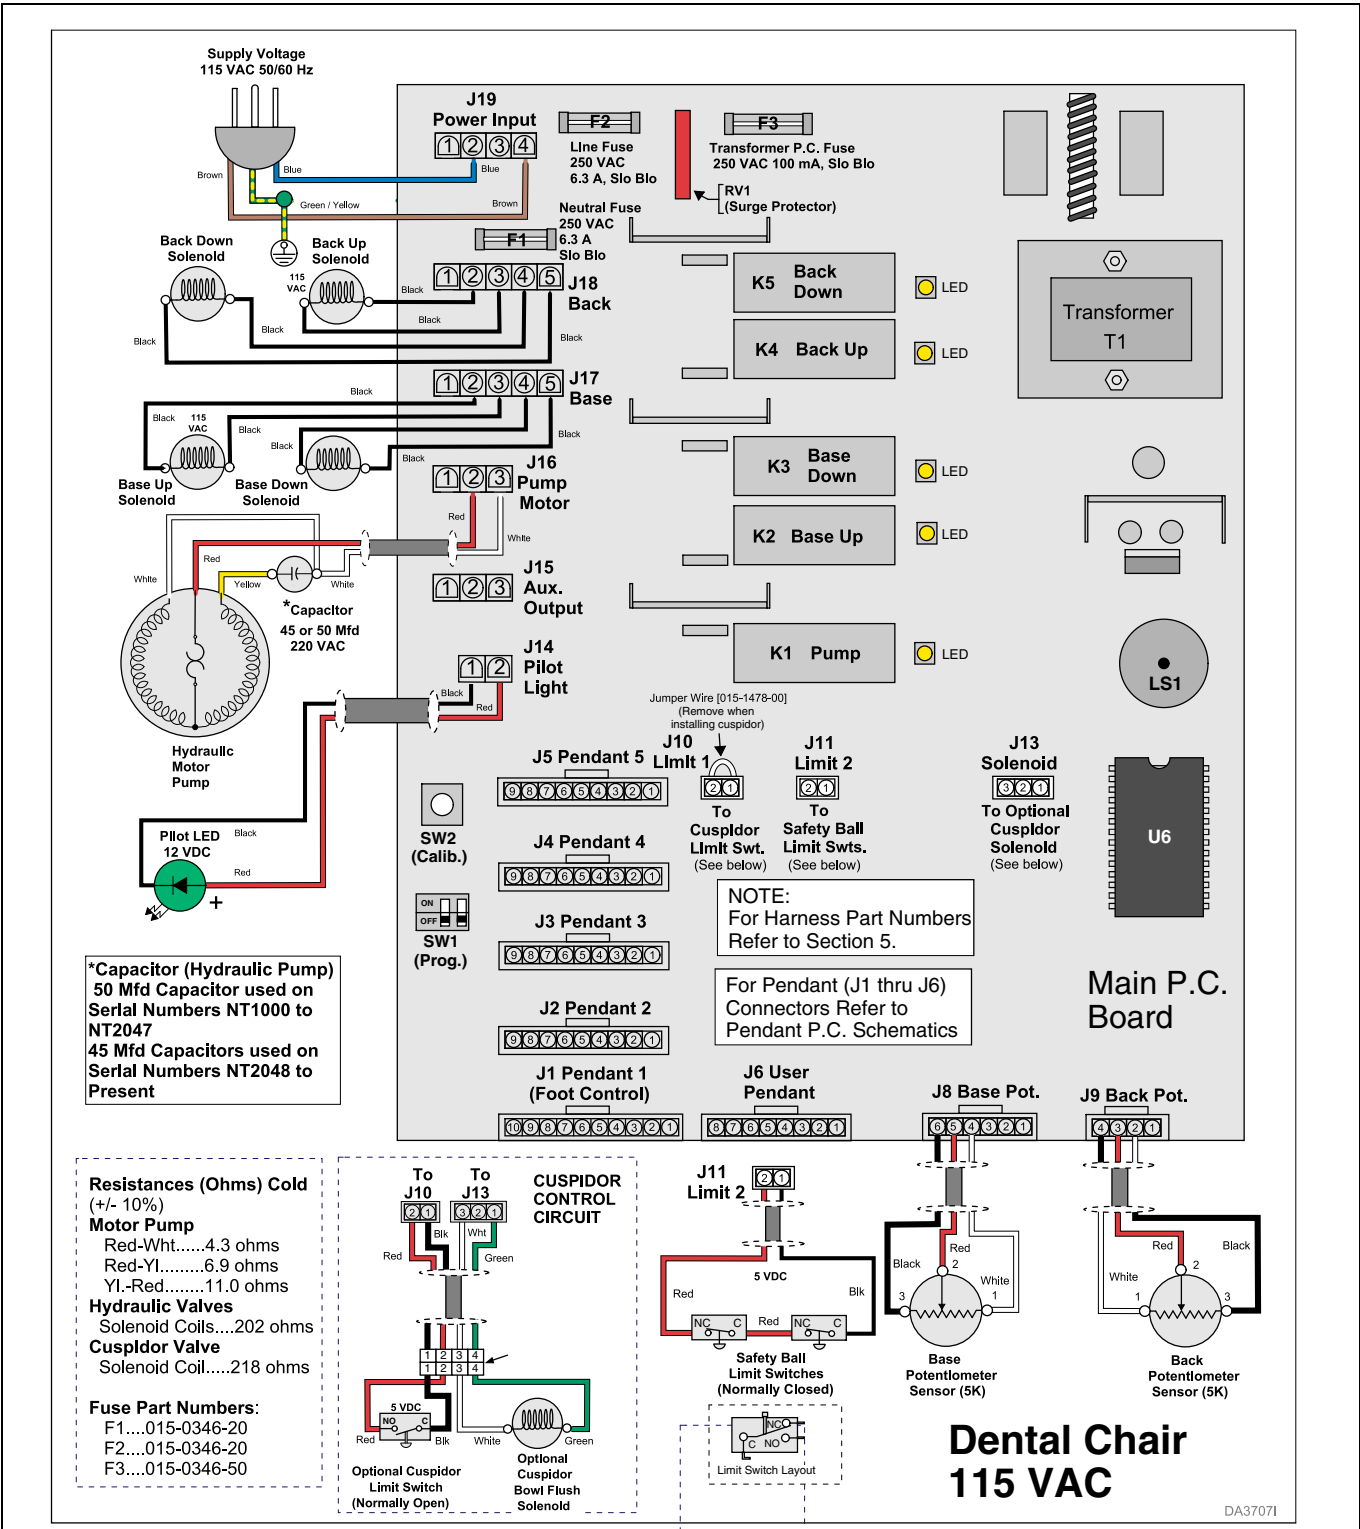

Figure 1-4. Main P.C. Board and Related Components
C. Theory of Operation (Refer to Figure 1-4 and Section V for wiring diagram, electrical schematics and hydraulic layouts).
Back Up Function Operation (Figure 1-4):
Back Down Function Operation (Figure 1-4):
Base Up Function Operation (Figure 1-4):
Base Down Function Operation (Figure 1-4):
Safety Bail Limit Switches (Figure 1-4):